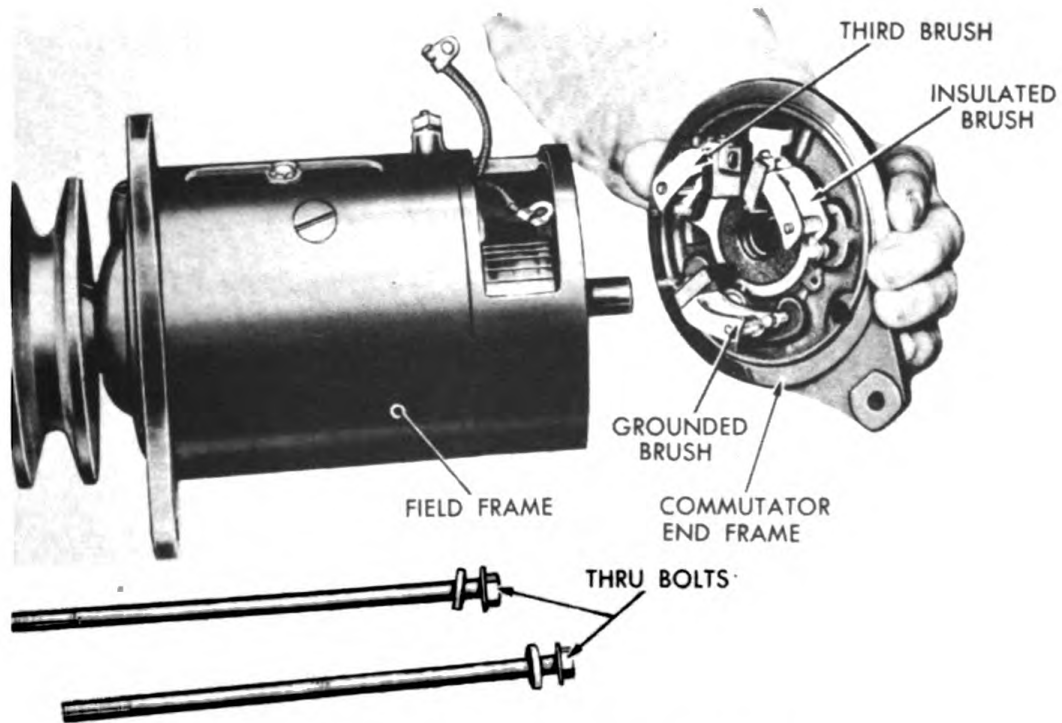

Figure 253. Removing Commutator End Bracket.
- c. Remove the two through bolts and lockwashers and detach the commutator end frame from the field frame. See figure 253. It may be necessary to loosen the commutator end frame with a soft lead hammer.
- d. To attach the commutator end frame, align the dowels and dowel holes and place the commutator end frame in position in the drive end frame. See figure 253. The three brush holders may be cocked so that they will be out of the way of the commutator during this assembly procedure. Secure the commutator end frame to the field frame with the two through bolts and lockwashers.